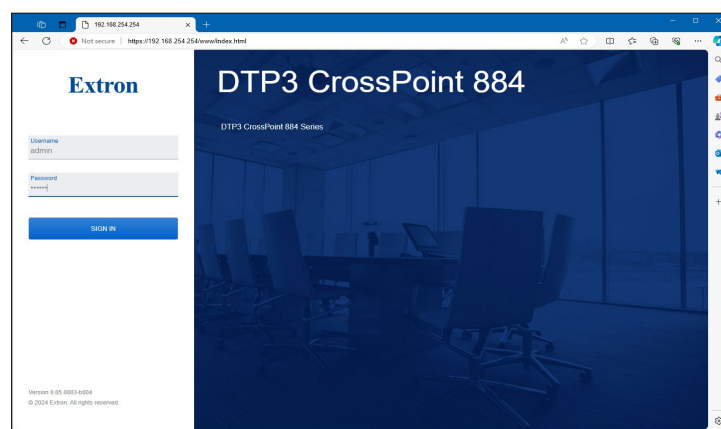

Figure 48. Network Password Prompt
5. The DTP3 CrossPoint is password protected. Enter **user** or **admin** in the **Username** field (see figure 48 on page 103).
6. Enter the password in the **Password** field when prompted (see figure 48).